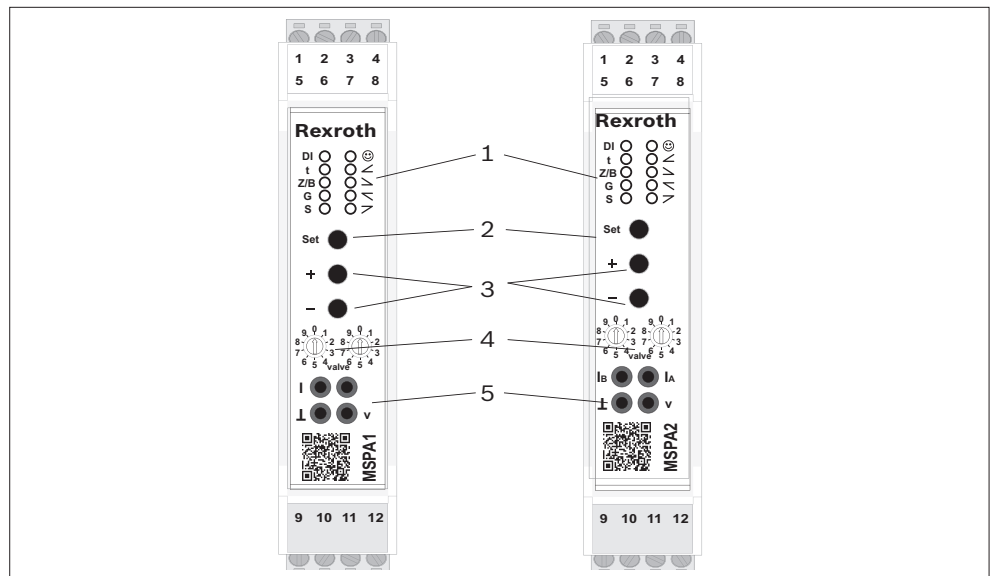

Fig. 4: Operating and display elements
The desired valve type has to be selected by means of the two rotary switches, see Fig. 4 item 4. The left-hand rotary switch sets the tens place, the right-hand rotary switch the units place of the item. While you make the settings, test jack “v” outputs the selected rotary switch position as a voltage value in 100-mV increments.